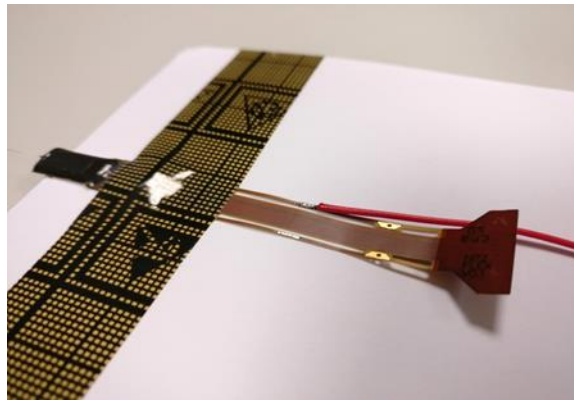

Figure 47: Soldered wire to solder pad without hole.
- Press the solder tip on top of the GND/REF wire and feed some amount of solder wire. This forms a strong solder joint. (Figure 47)